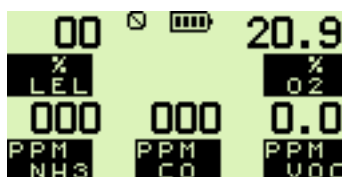

Fig. 2.17 Pump Symbol Displayed
When the pump is running at normal speed, a pump symbol  rotates in the display as shown in Fig. 2.17
A press and hold of the green (RH) button re-sets the pump to run at normal speed. When the pump is running at normal speed, a pump symbol  rotates in the display as illustrated in Fig. 2.17. Press and hold the green (RH) button again to switch the pump OFF.